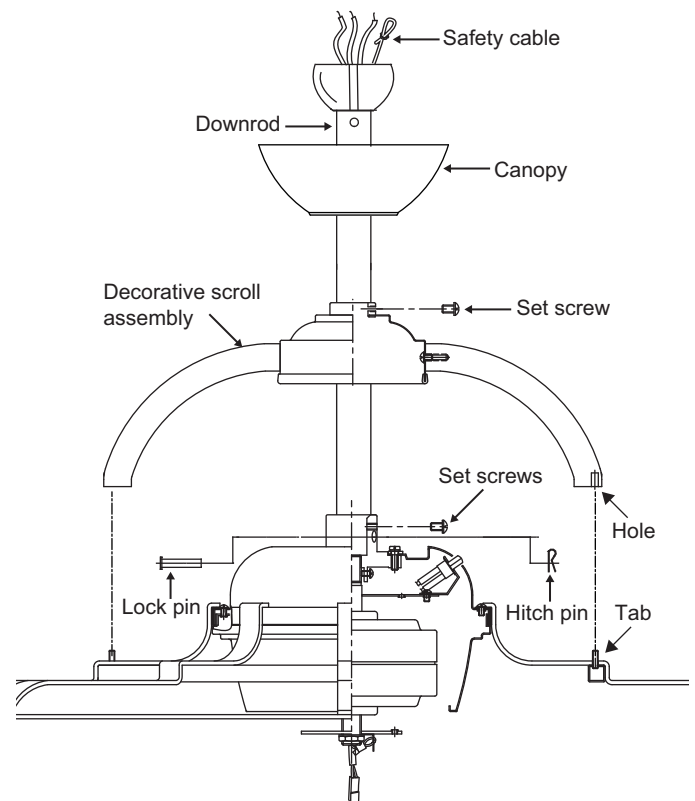

Figure 8
Step 5. Route the safety cable and wires exiting from the top of the fan motor through the decorative scroll assembly and canopy, and then through the ball / downrod. (Fig. 8)
Step 6. Align the holes at the bottom of the downrod with the holes in the collar on top of the motor housing (Fig.8). Carefully insert the hanger pin through the holes in the collar and downrod. Be careful not to jam the pin against the wiring inside the downrod. Insert the locking pin through the hole near the end of the hanger pin until it snaps into its locked position, as noted in the circle inset of Fig. 8.
Step 7. Slide the decorative scroll assembly close to the motor. Fasten the decorative scroll to the motor housing by lining up the hloes of the decorative scroll arms with the tabs on the motor housing, then tighten the decorative scroll set screw already installed in the decorative scroll assembly. (Fig. 8)
Step 8. Tighten two set screws on top of the fan motor firmly. (Fig. 8)